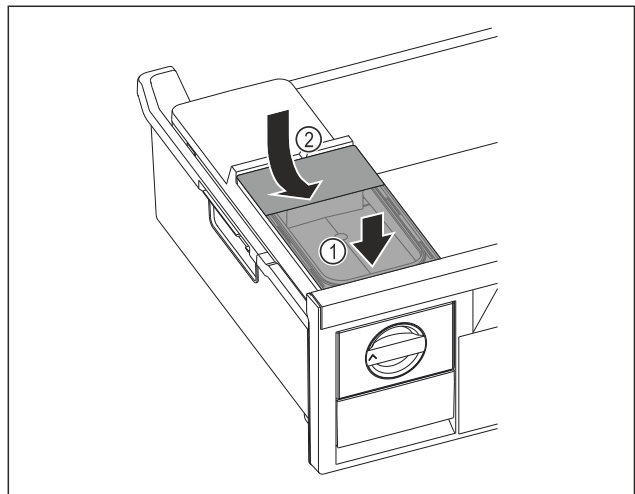

Fig. 110
- Position the water tank at the front. Fig. 110 (1)
- Lower the water tank at the rear. Fig. 110 (2)